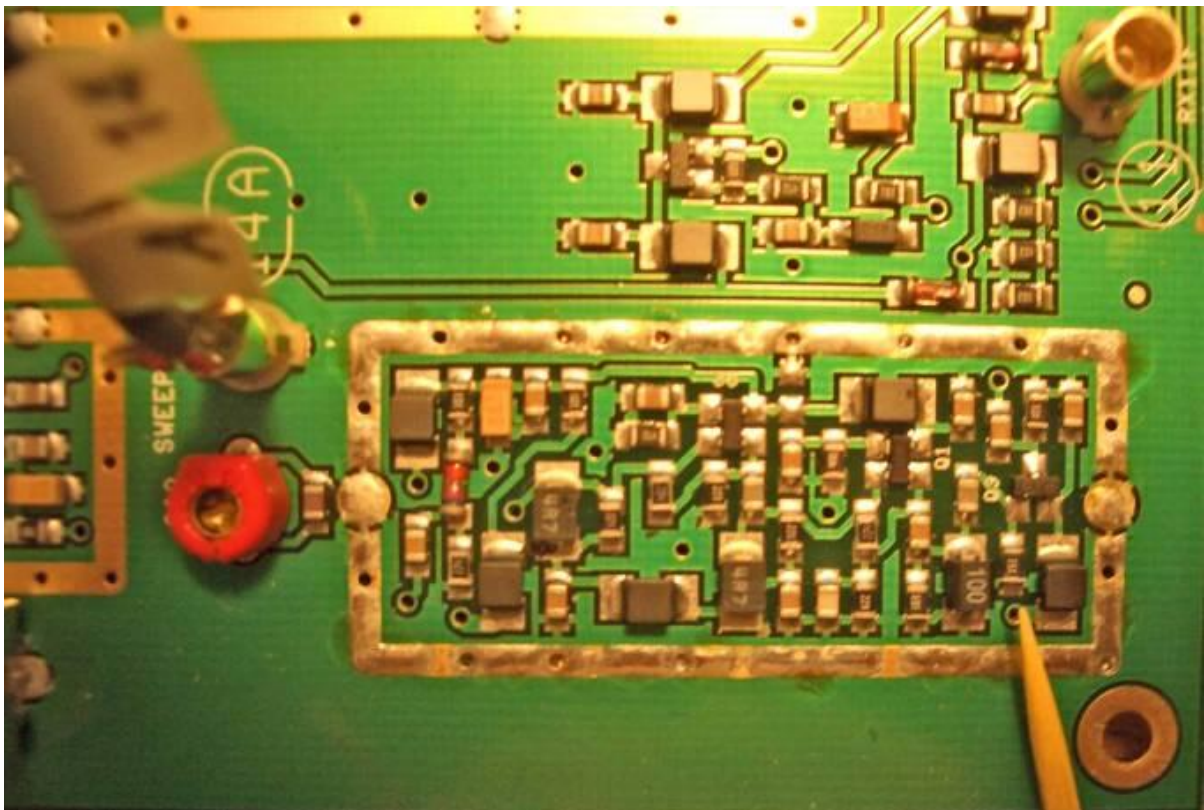

Figure A-2: Location of R26
7. **Note** the rectangular area directly between the **14A** connector jack and the front edge of the IF board (immediately to the left of the 1.8 kHz roofing filter). The pointer tip in Figure A-2 shows R26.
8. Attach a piece of the RG-178 coax across R26 with the coax shield attached to the ground plane (the ground plane is the end nearest the pointer in Figure A-2.). (**If you are not using an internal buffer amplifier go to step 14.**)